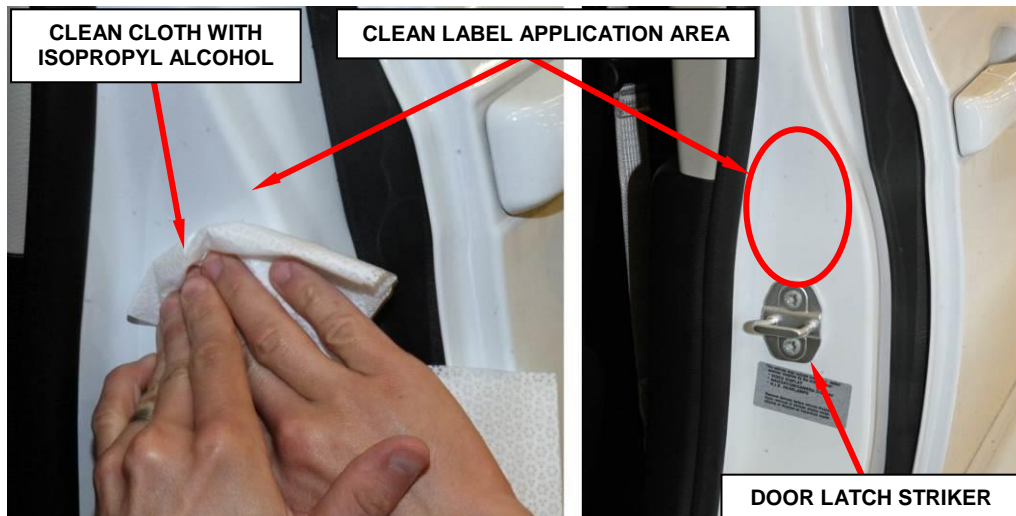

Figure 4 – Remove Tire Placard Label Adhesive Residue
- Using isopropyl alcohol, wipe the surface of the front driver side door jamb clean where the tire placard label is to be applied. Ensure that all the residue is removed. Allow the alcohol to evaporate (Figure 4).